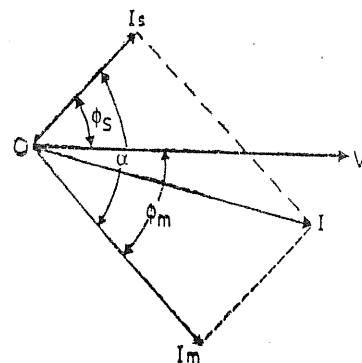

FIG. 4.25 : VECTOR DIAGRAM
- The vector diagram of the capacitor start induction run single phase induction motor is shown in Fig. 4.25.